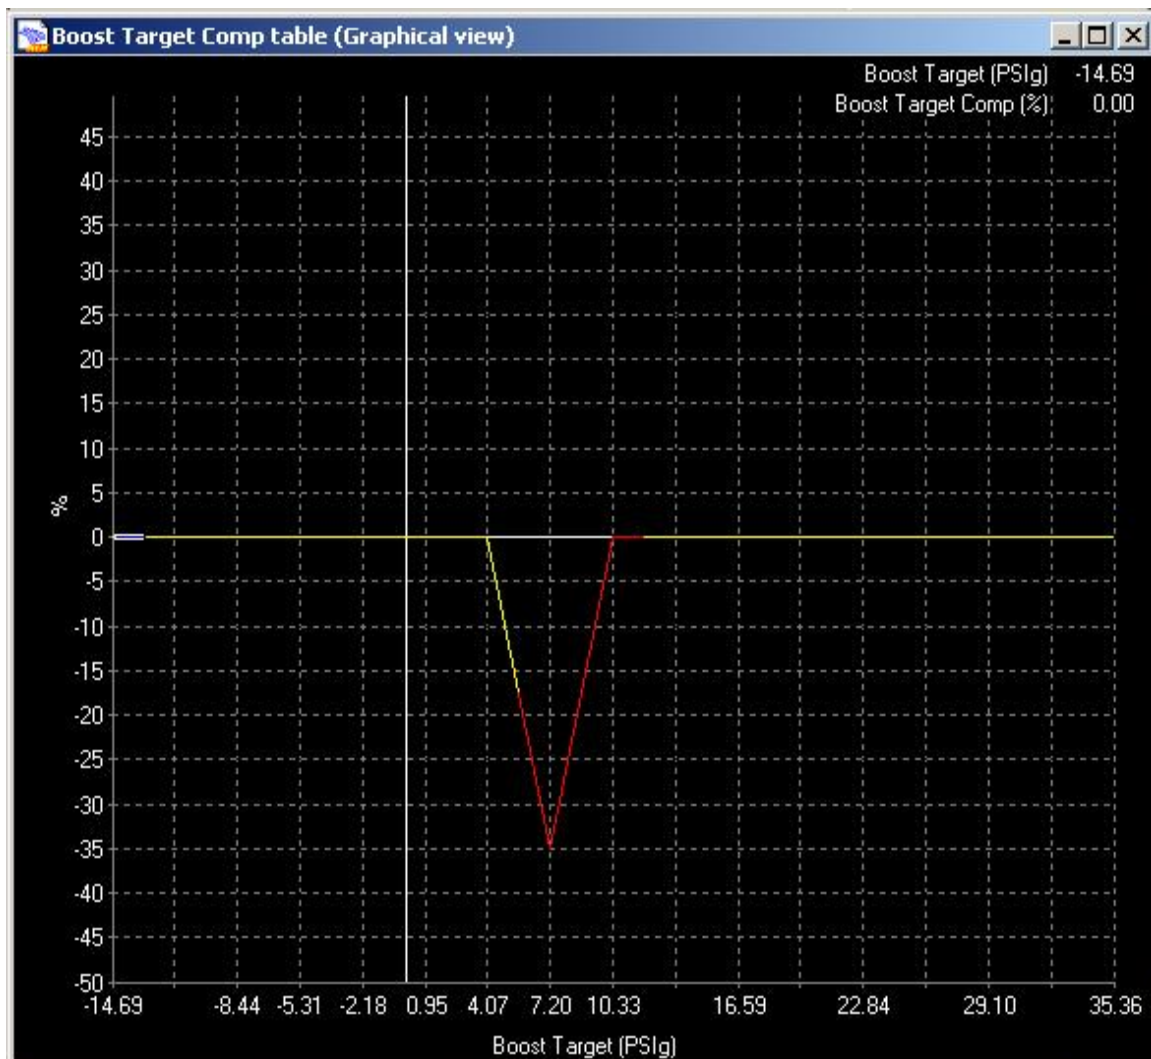

Fig. 4 - Boost Target Comp table
12. Locate the **Boost Target Comp** Table (Fig. 4). This table sets the amount of change from the **Boost WG Base Duty** map per boost target cell.